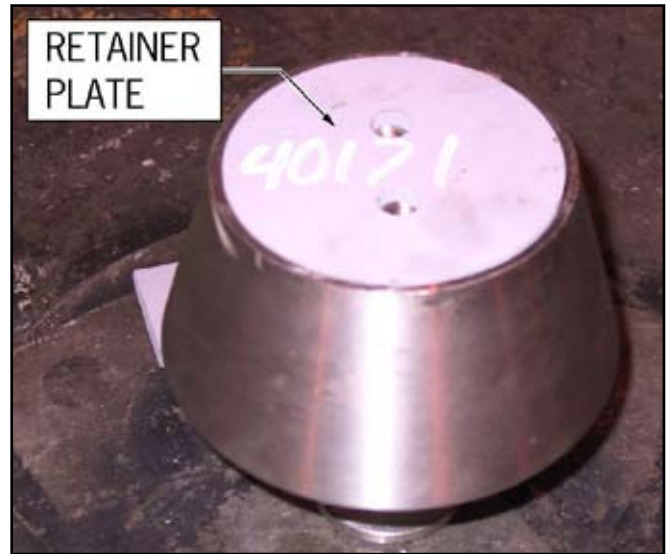

Fig. 6-41 Pipe Rack Roller Retainer Plate.
1. Remove the two capscrews from the retainer plate (fig. 6-41) and remove retainer plate.